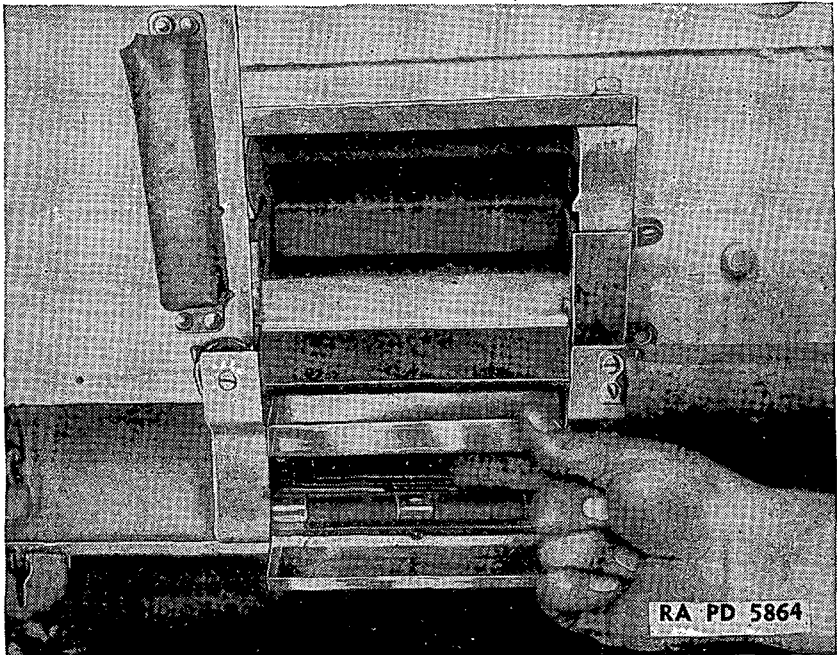

FIGURE 87.—Removal of window No. 2.
4. Lift out window "2" (fig. 87).